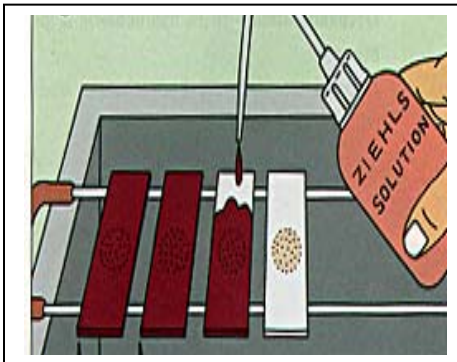

Fig. 14
- Pour filtered 1% carbol fuchsin to cover the entire surface of the slide (Fig.14).